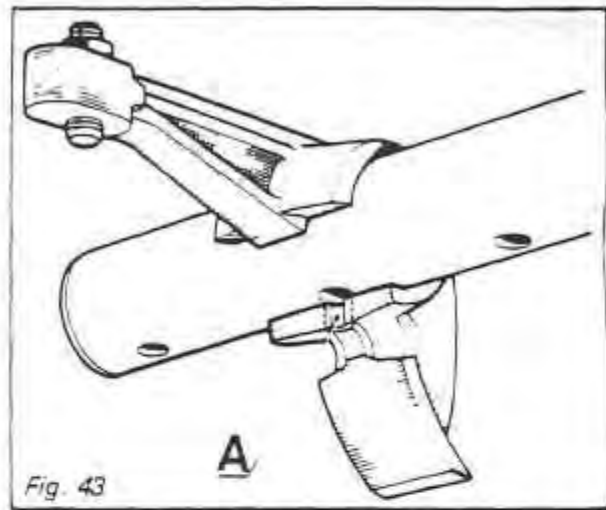

Fig. 43
The RH and LH side rocker shaft assemblies are identical. They match their respective cylinder heads by turning the complete assembly round. The position of the rocker shaft must not be reversed because the oil feed holes (A) will be blocked; the rocker shafts must be fitted with their oil holes facing downwards. (Fig. 43)